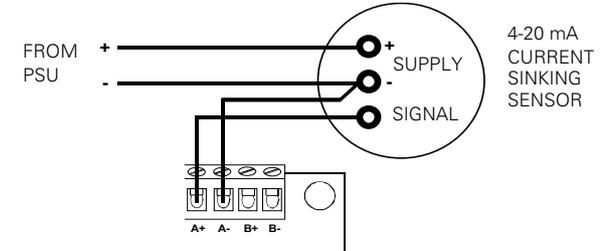
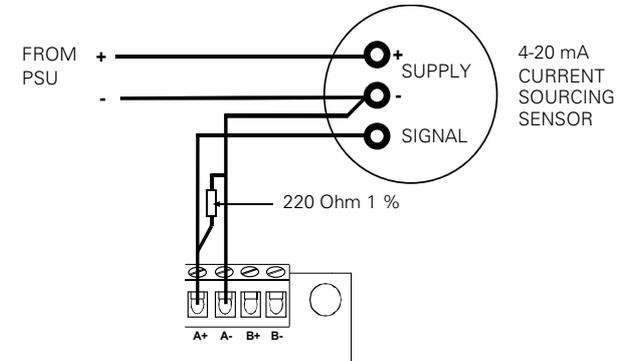

Fig. 13: Connection of a 4-20 mA current sinking sensor (only one circuit shown for clarity)
Fig. 14: Connection of a 4-20 mA current sourcing sensor (only one circuit shown for clarity)
- 6 For 4-20 mA gas sensors, connection of the loop and 24 V wiring is shown in Figs. 13 and 14.
- 7 When using current sourcing 4-20 mA sensors, the 220 Ohms 1 % 0.25 W current sensing resistor must be fitted to the DDM800 terminals as shown in Fig. 14. For this reason (220 Ohms) the FV300 cannot source a DDM800 and so must be configured as a current sinking device with the DDM800 sourcing as per Fig 13.